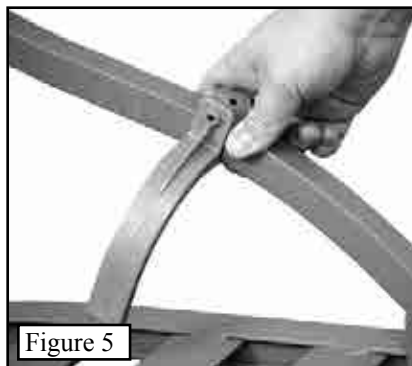
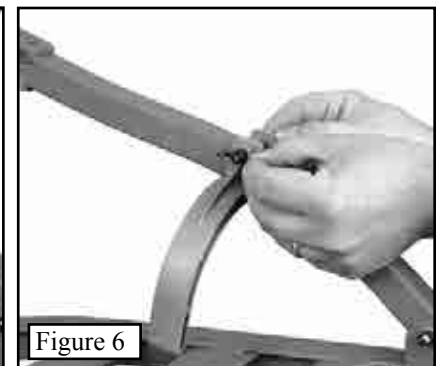
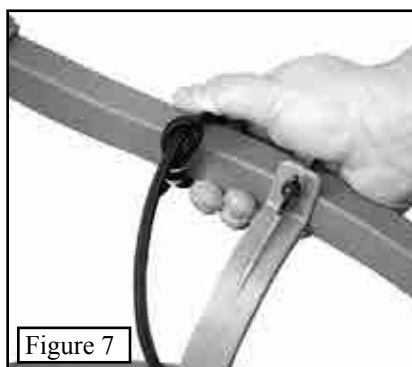
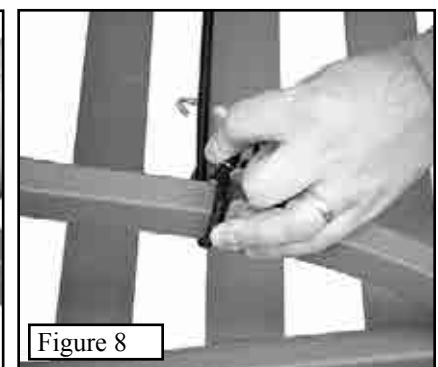

Figure 5
Figure 6
Figure 7
Figure 8
RapidClimb Stirrups. The two (2) RapidClimb stirrups fit on the upright arms of the platform. Simply slide one stirrup on each side of the platform so that they are on the inside of the platform and facing down as shown in **Figure 5**. Once positioned, secure with the bolt and wing nut provided as shown in **Figure 6**. Occasional readjustment may be required as your footwear needs change. Wrap the supplied bungee cord around one side of the platform upright bars and push the S-hook through the loop as shown in **Figure 7**. Hook the S-hook around the opposite platform upright bar and back onto itself as shown in **Figure 8**.